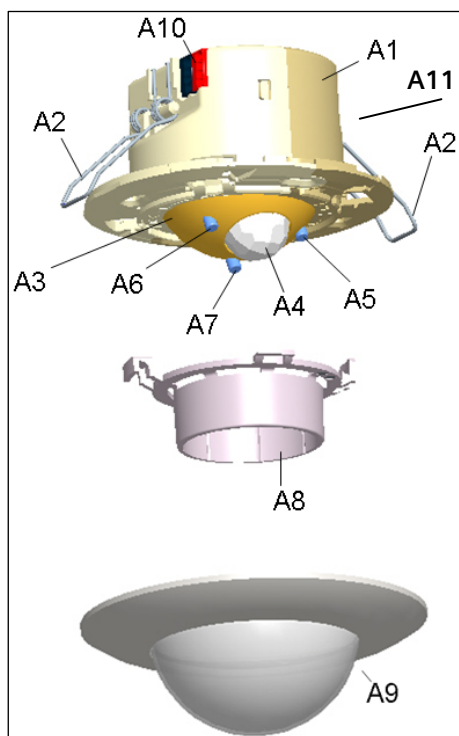

Figure 2: Display and operating elements
- Be aware of orientation of presence detector, visible at position of programming button (fig. 2 - A7) with design cover, without shade, in vertical position